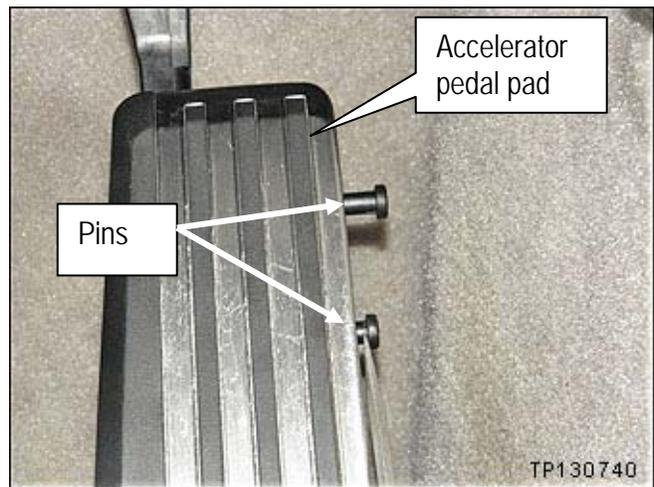

Figure A4
- The pins in Figure A4 are partly removed to give a better visual of their location.